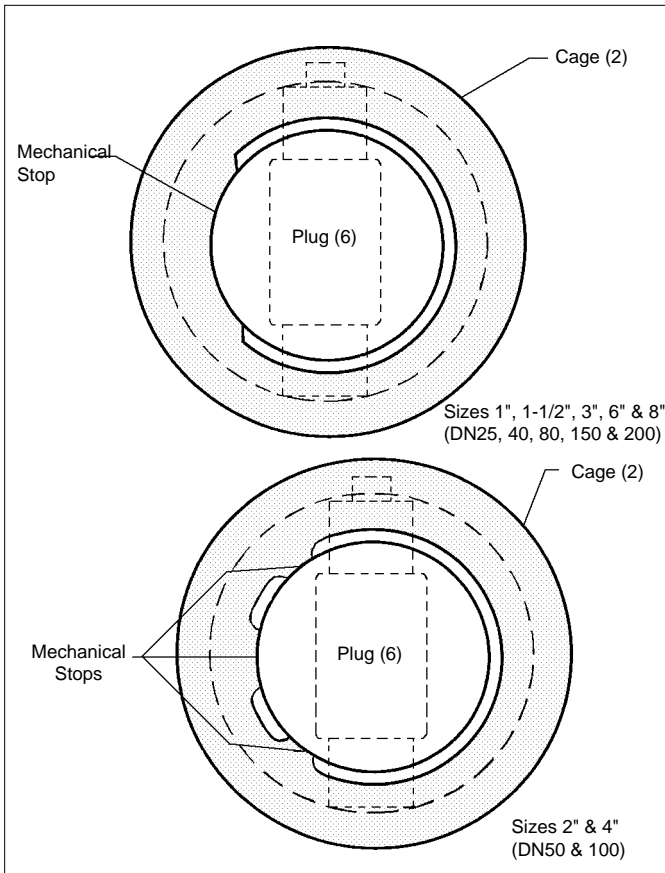

FIGURE 7
- Rotate plug (6) to the closed position. Ensure that the plug (6) is fully pulled into the mechanical stop (5) on the cage (2). See Figure 7. Ensure that the closing torque is nil; i.e. actuator assembly (AA) linkage is "loose" or "slack".
- Insert the cage/plug subassembly (2)(4)(5)(6) into the body (1). On 1-1/2" and 2" sizes with lo-noise inserts or abrasion sleeve, make sure these pieces and the cage (2) slip together on the back of the cage (2). Make sure the tongue on the plug (6) stub shaft and the groove in the stem subassembly (7) mate together. Check by looking in through the back-end of the body (1) or by adjusting the supply pressure to the actuator within limits of bench range as speci-